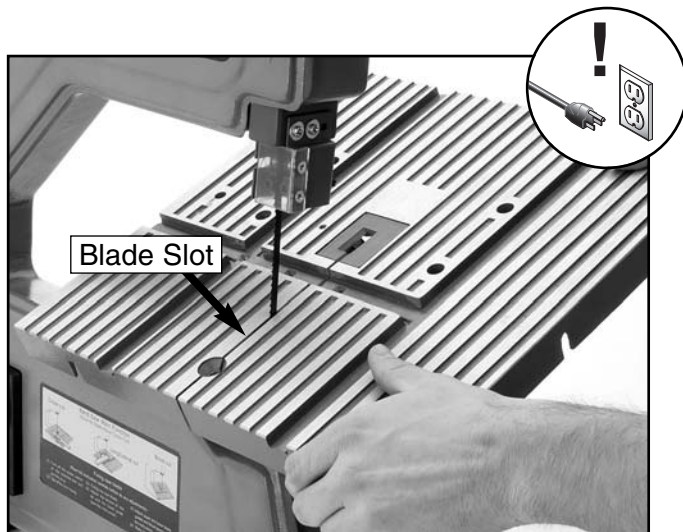

Figure 12. Attaching the table to the bandsaw.
- Slide the blade slot in the table around the blade (**Figure 12**) and position the table trunnion against the back of the bandsaw.